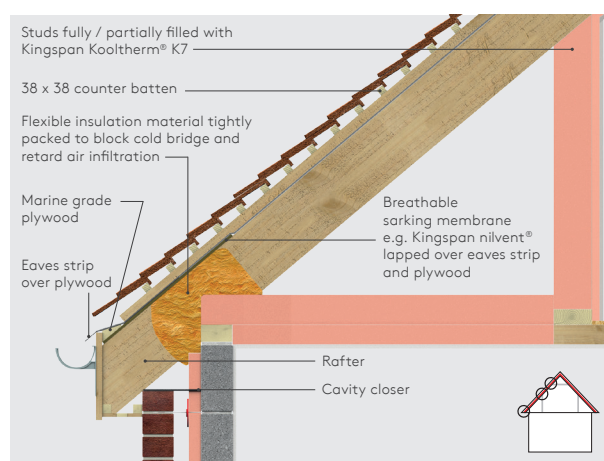

Figure 5a - Overhanging eaves detail - section perpendicular to ridge
- The details in the images that follow (Figures 5a – 9b) represent typical detailing to achieve a good level of thermal performance, however the details included in this document may not be suitable for use in all circumstances. Where there is any uncertainty, Building Control Body (BCB) requirements and advice should always be sought and followed. All other site requirements and relevant building regulations must be taken into consideration when implementing the details.